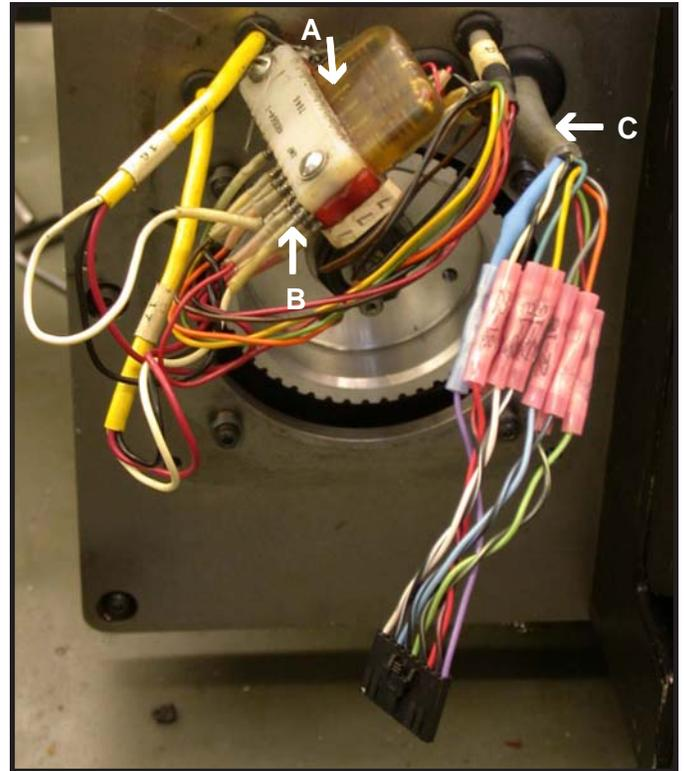

Figure 4.2.6
Mount the Z encoder mounting plate to the back plate using the 4 cam lock screws previously loosened. Put the new encoder on the end of the ball screw shaft and loosely insert the 6-32 screw. Now tighten the (2) set screws onto the ball screw shaft, then tighten the 6-32 mounting screw for the encoder to the base plate. Plug the encoder connector into the new connector that was butt spliced onto the existing Z feedback cable (Figure 4.2.6). Do not replace the feedback covers until proper axis motion has been verified.